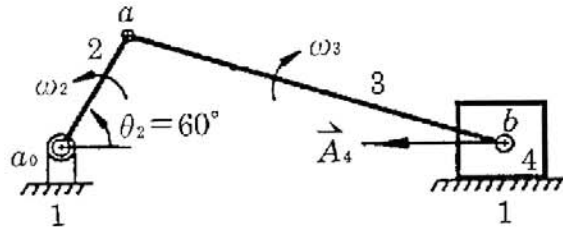

Fig. 3
3. Fig. 3 shows a slider crank mechanism with dimensions $a_0a=10\text{cm}$, $ab=30\text{cm}$, $\theta_2 = 60^\circ$. If the crank rotates at a constant angular velocity of $\omega_2 = 100\text{ rad/sec}$ (counterclockwise). (25%)